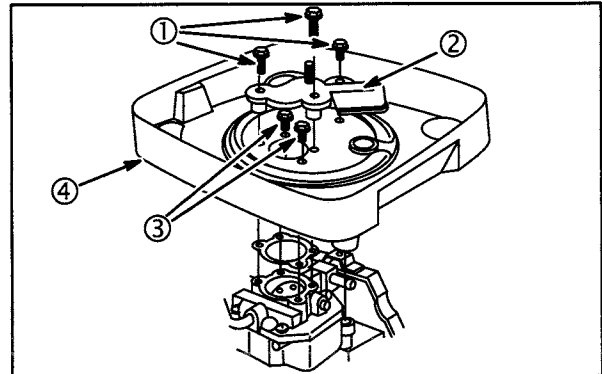

Fig. 3
**Current style: (Round cartridge), Fig. 3.**
2. Remove three screws (1) and breather deflector (2).
3. Remove two air cleaner base mounting screws (3).
4. Remove air cleaner base (4) and breather tube.